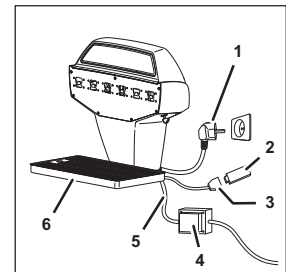

Fig. 8
9. Position the drip tray (Fig. 8/6) with grill on the unit; see chapter 7.2.
10. Connect the electrical cable (Fig. 8/5) (cable no. 220097434) to the transformer (Fig. 8/4) in the undercounter cooler.
11. **Only for units with a display:** Plug the electrical cable (Fig. 8/1) into an earthed socket.
12. **Only for units with a display:** Connect a player (Fig. 8/2) with the USB connection (Fig. 8/3) of the unit.